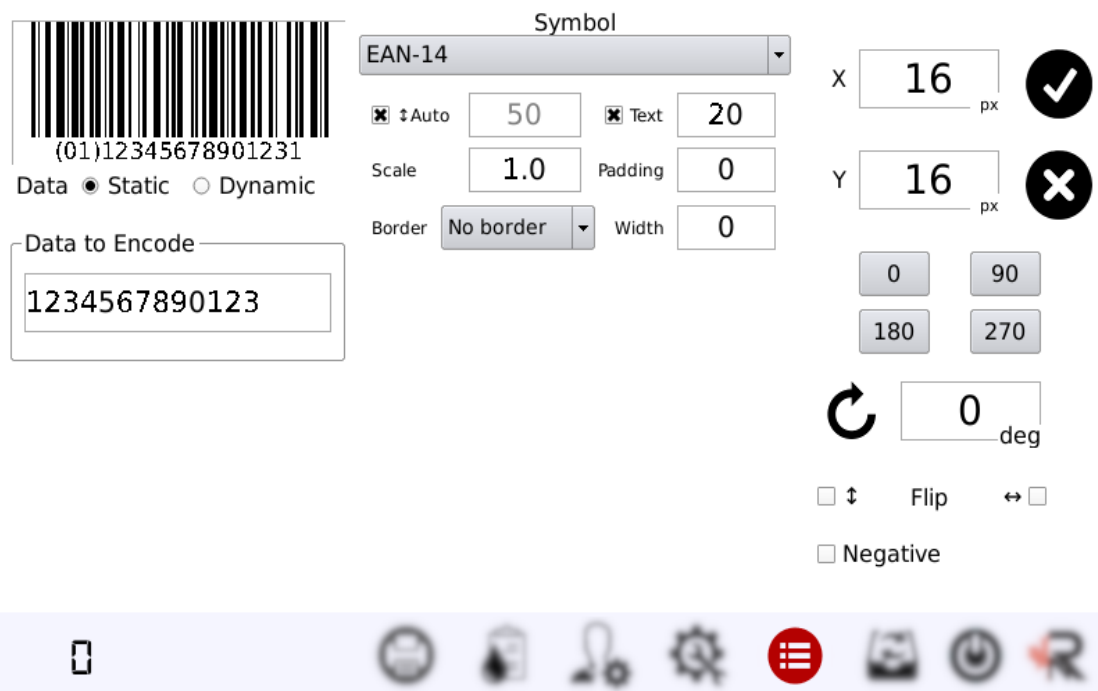

Figure 30: Static Barcode object
Each symbology has its own data constraints; It means according to the selected symbology a certain number of numbers and/or characters must be entered as data. Example (Figure 30): for EAN14 barcode, user must enter 13 digits from a valid GTIN number, the 14th digit is a check digit generated by the printer.
- Static data: barcode is a static object (Figure 30).